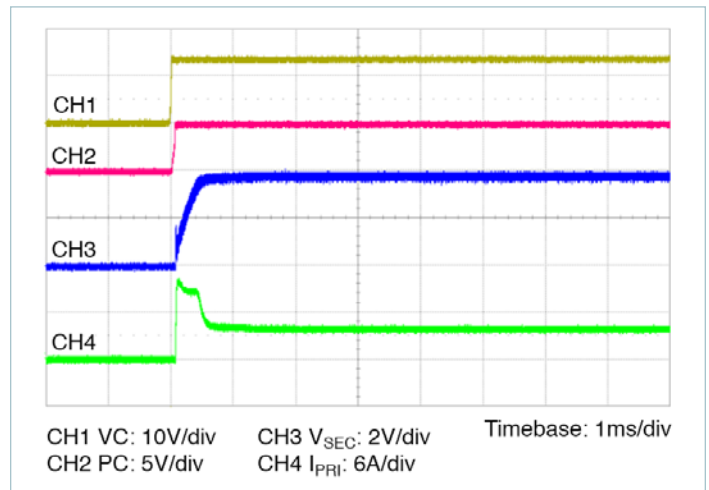

Figure 14 — Start up from application of V_C ; V_{PRI} pre-applied $C_{SEC} = 9100\mu F$
- Stand-alone operation (VC applied after V_{PR1}): In this case the VTM secondary will begin to rise upon the application of the VC voltage (See Figure 14). The Adaptive Soft Start Circuit may vary the secondary voltage rate of rise in order to limit the inrush current to its maximum level. When starting into high capacitance, or a short, the secondary current will be limited for a maximum of 1200µs. After this period, the Adaptive Soft Start Circuit will time out and the VTM module may shut down. No restart will be attempted until VC is re-applied or PC is toggled. The maximum secondary capacitance is limited to 9100µF in this mode of operation to ensure a successful start.